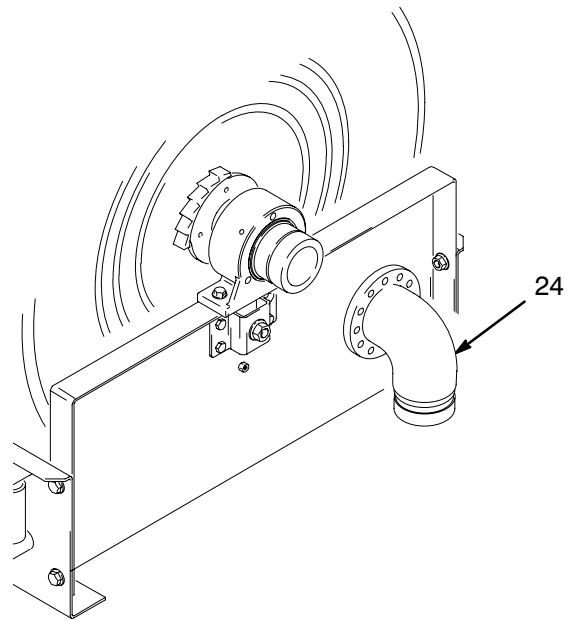

Fig. 6
2. Remove the 90° inlet adapter (24) (see Fig. 6).
4. Install the parts as shown in Fig. 6.